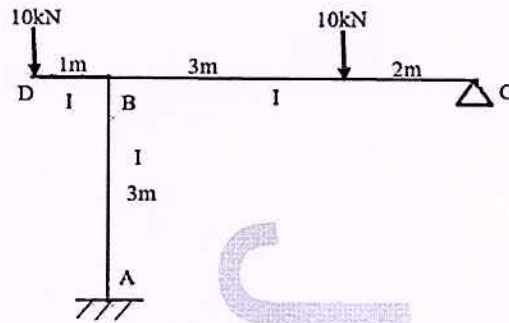

Figure 3
- 15 a) Analyse the frame shown in figure 3 by slope deflection method and draw bending moment diagram. 14